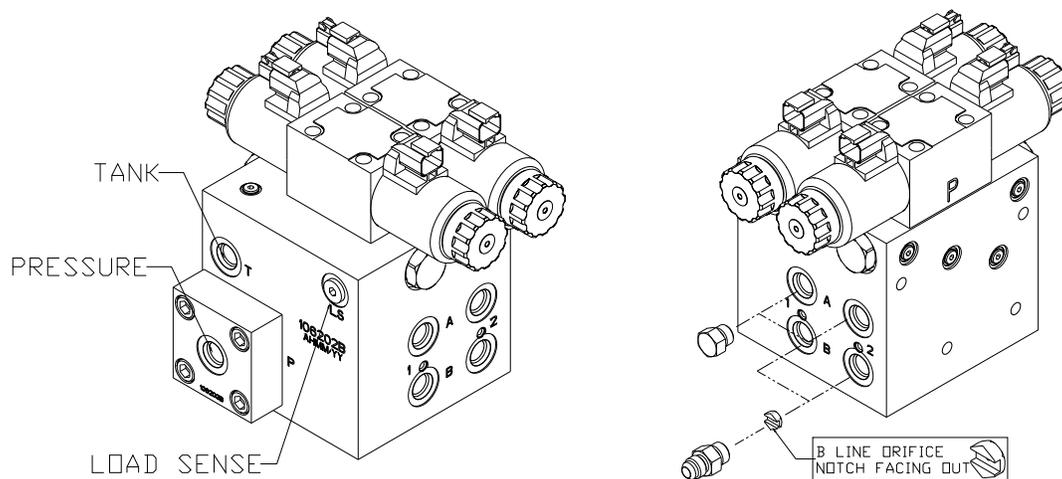

Figure 25: Single Acting NORAC Valve Block Details
3. Insert the two orifices (F01) into the “B” ports with the notch facing out. **(Figure 25)**